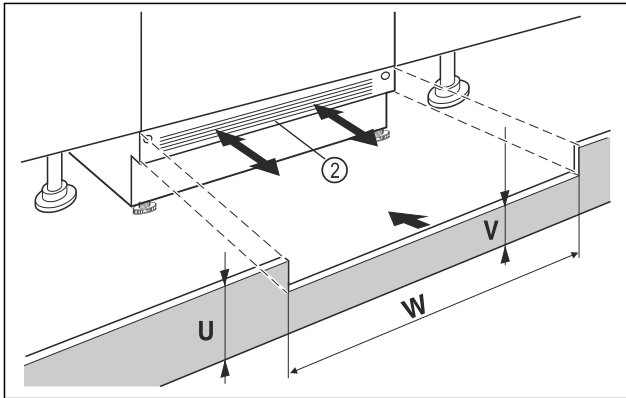

Fig. 13 Example illustration
- ▶ Put on the appliance base cover Fig. 13 (2) but do not fix it yet.
- ▶ If the base cover Fig. 13 (2) is visible, pull it so far forward that the front edge of the ventilation grille and the unit base cover form one level.
- ▶ If the base cover is concealed Fig. 13 (2), push it all the way back.
- ▶ Ensure that the ventilation slots are completely free: If necessary, cut the height of the unit base cover Fig. 13 (U) to size!
- ▶ Adjust the bar height Fig. 13 (V) under the appliance base cover Fig. 13 (2) along the recess width Fig. 13 (W).